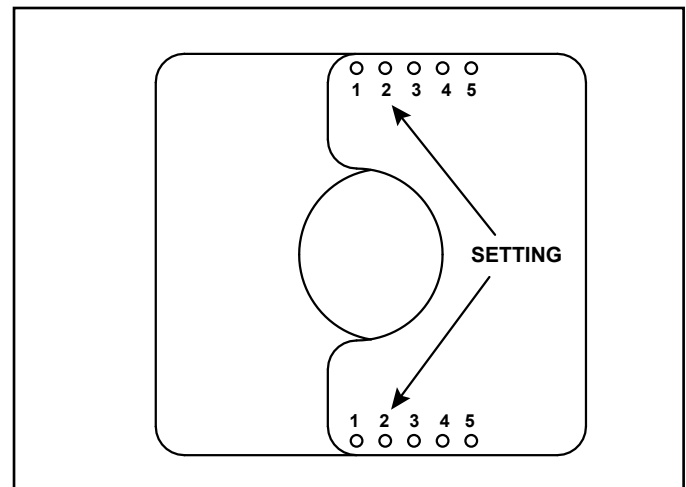

Figure 4.7 Setting the Exhaust Restrictor for MEZZO-1000-AU
3. The setting for MEZZO-1000-AU is 2-2. Align the holes marked "2" on the numbered exhaust restrictor piece with the holes on the other exhaust restrictor piece. See Figure 4.7. Align the exhaust restrictor pieces with the pilot holes in the inner firebox chamber. Use two 1/2 in. (13 mm) self-piercing screws to secure vent restrictor to firebox heat shield.